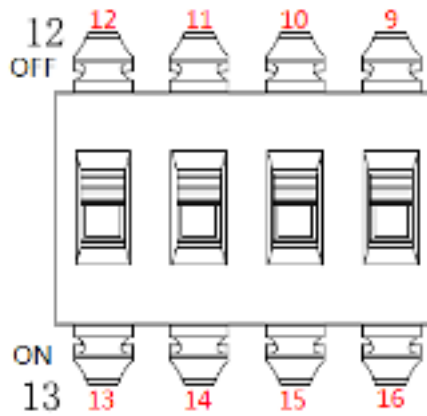

Figure 2-4
It is to set the baud rate and parity of the speed dome. 9(16) and 10(15) is setting bit of baud rate, 11(14) and 12(13) is setting bit of parity. Please refer to Figure 2-4 for label and refer to Table 2-2 and Table 2-3 for setting.